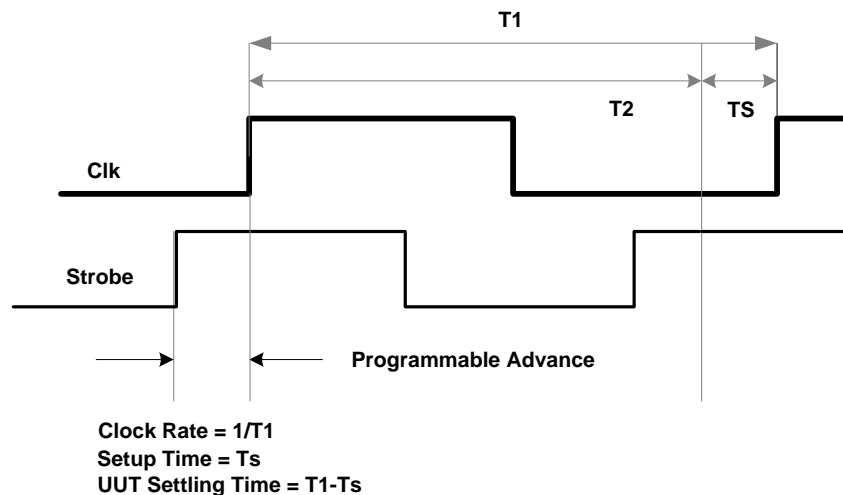

Figure 4-4: Signal Timing Diagram
- Strobe The DIO captures input patterns from the I/O connector on the rising edge of Strobe (STB). When the Strobe source signal is internal, it has the same frequency as the Clock signal. The Strobe Clock can have a delay of 0-27 nSec (with increments of 250 pSec) relative to the Out clock source. The timing diagram in Figure 4-4 displays Out CLK and Strobe signals. The DIO board can be driven using either internal or external clock sources. In internal mode, Strobe occurs T_s nanoseconds before the next clock (CLK) signal (8 nSec default). T_s can be set from 0 – 24 nanoseconds before the Out CLK signal. In the external mode, Clock or Strobe signals are provided externally.
A timing diagram of the CLK and Strobe signals is shown in Figure 4-4.